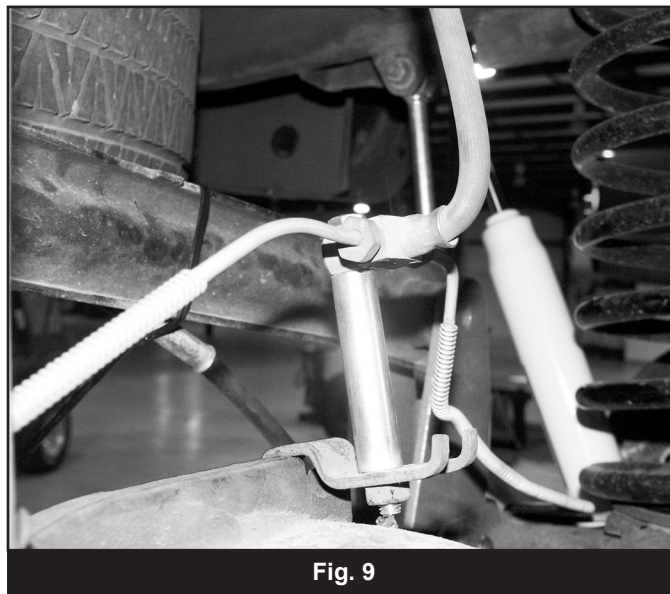

Fig. 9
29. Install the provided brake line spacer sleeve (37-1) between the brake line junction block and the differential mounting tab and fasten with the provided 8mm x 100mm bolt and 5/16" washer from bolt pack #551 (Fig 9). Torque to 15 ft-lbs.